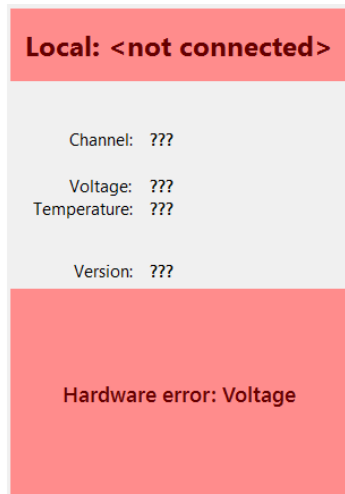

Figure 2.2: RadioCheck indicates a radio with a voltage problem.
If these values are not present, this indicates a problem with the radio or the cable. Figure 2.2 on page 6 shows a healthy radio.
- Voltage error: indicates the radio is either not being supplied with a sufficient 12V supply, or, there is a problem with the radio's internal circuitry. See Figure 2.2 on page 6.